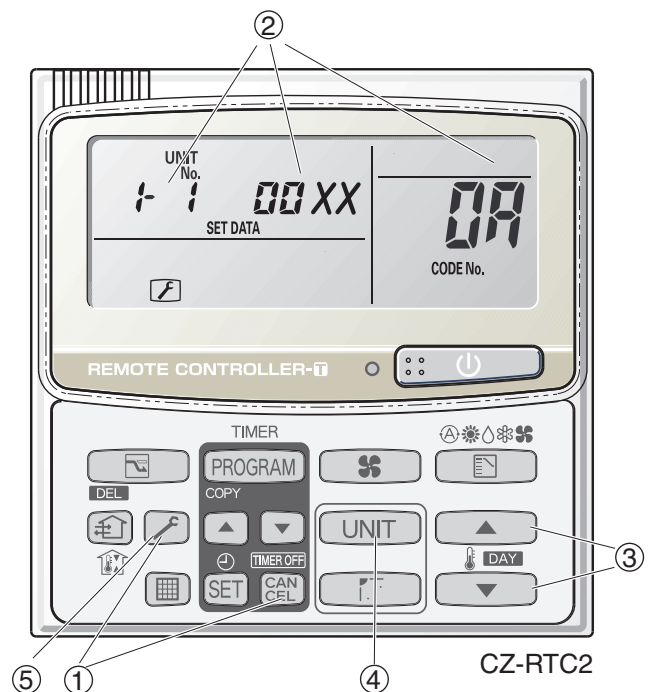

Fig. 7-4
- ① Press and hold the  and  buttons simultaneously for 4 seconds or longer.
- ② The unit No. "X-X" (main unit No.), item code "XX" (sensor address), and servicing monitor "00 XX" (sensor temperature) are displayed on the remote controller LCD display. (See Fig. 7-4 at right.)
- ③ Press the temperature setting   buttons and select the item code to the address of the sensor to monitor.